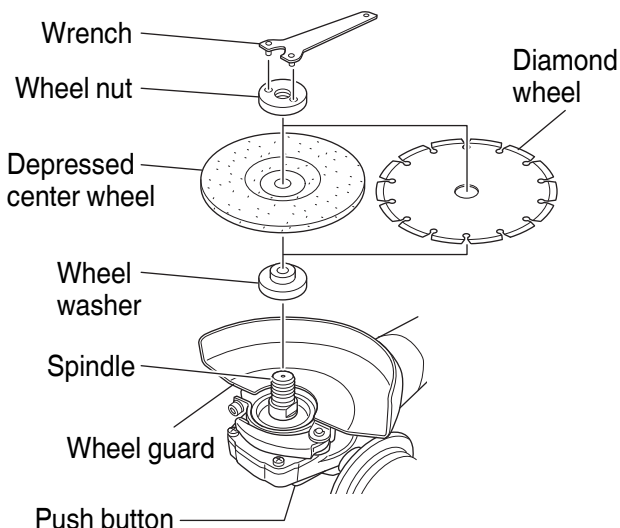

Fig. 4
Confirm that the push button is disengaged by pushing push button two or three times before switching the power tool on (See **Fig. 4**).
ASSEMBLING AND DISASSEMBLING THE DEPRESSED CENTER WHEEL (Fig. 4)
1. Assembling (**Fig. 4**)
- (1) Turn the disc grinder upsidedown so that the spindle is facing upward.
- (2) Align the across flats of the wheel washer with the notched part of the spindle, then attach them.
- (3) Fit the protuberance of the depressed center wheel onto the wheel washer.
- (4) Screw the wheel nut onto the spindle.
- (5) While pushing the push button with one hand, lock the spindle by turning the depressed center wheel slowly with the other hand. Tighten the wheel nut by using the supplied wrench as shown in **Fig. 4**.